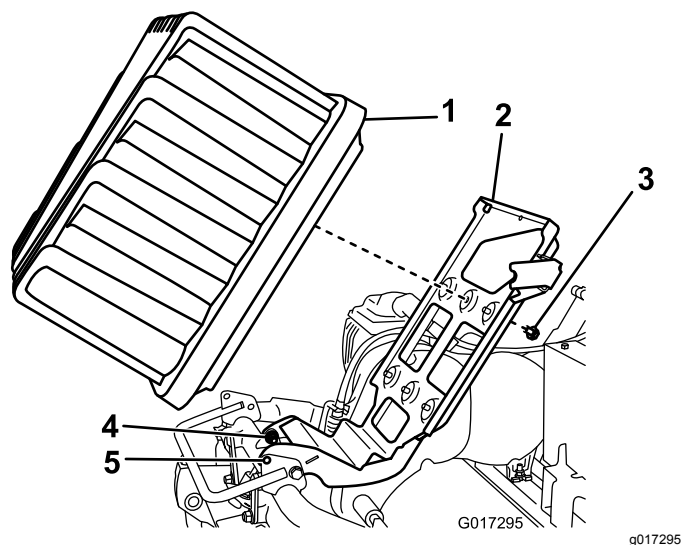

Figure 11
5. Loosen the 2 pivot bolts/nuts a half turn each (Figure 11).
6. Raise the battery platform until the locking holes in the base and frame align (Figure 11).